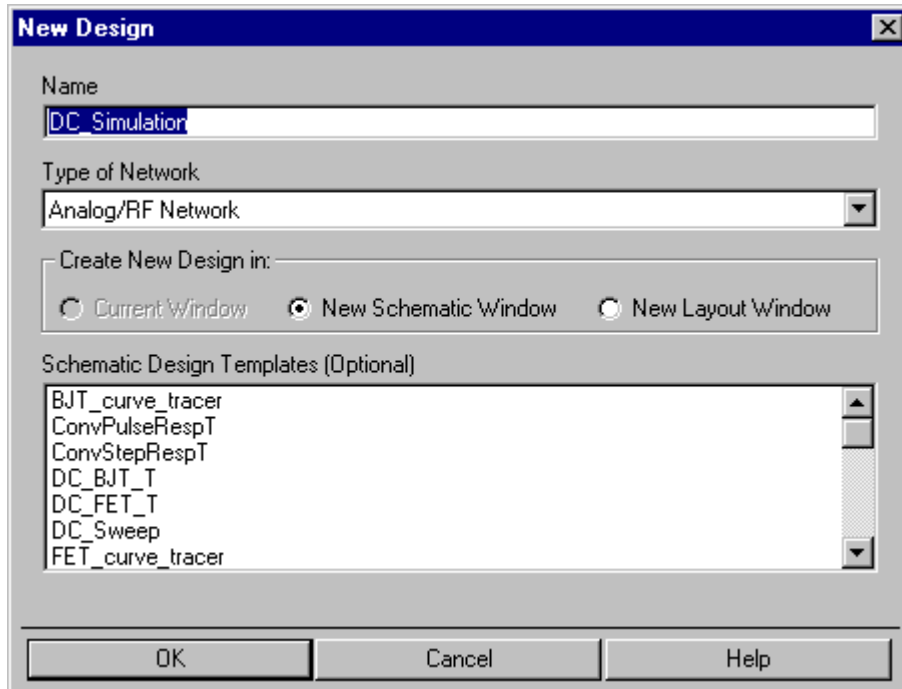

Figure 4: New design dialogue box
- To create a new design/schematic within your project, press **File->New Design**. Name your new design DC\_Simulation as shown in Figure 4 below. Make sure all of the other settings are the same as those in the figure. Schematics show the electrical connections, but they don't show the physical dimensions. Layouts show the physical and electrical connections. When you actually fabricate your design, you must create a layout from your schematic. Click “OK” when you are done.